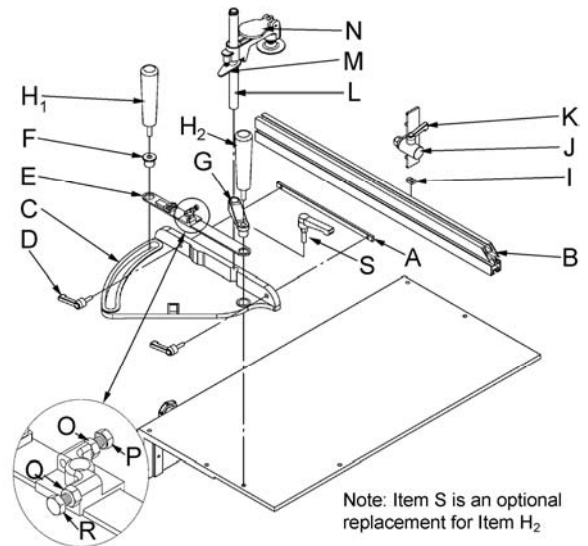

Figure 13
- Slide the miter gauge fence (B, Fig. 13) into the bar (A, Fig. 13) and attach to the miter gauge body (C, Fig. 13) with two handles (D, Fig. 13).
Referring to Figure 13: